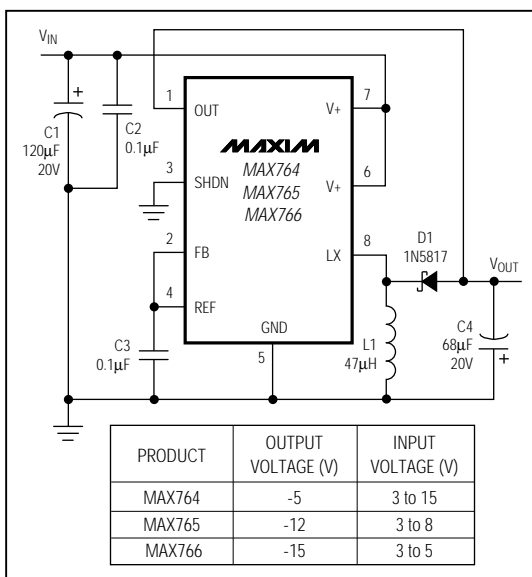

Figure 2. Fixed Output Voltage Operation
**Note 2:** Circuit of Figure 2.
CIRCUIT OF FIGURE 2,  $V_+ = 5V$ ,  $V_{OUT} = -5V$ ,  $I_{LOAD} = 80mA$
CIRCUIT OF FIGURE 2,  $V_+ = 5V$ ,  $V_{OUT} = -5V$ ,  $I_{LOAD} = 240mA$
Figures 2 and 3 show the standard application circuits for these devices. In these configurations, the IC is powered from the total differential voltage between the input (V+) and output (VOUT). The principal benefit of this arrangement is that it applies the largest available signal to the gate of the internal P-channel power MOSFET. This increased gate drive lowers switch on-resistance and increases DC-DC converter efficiency.